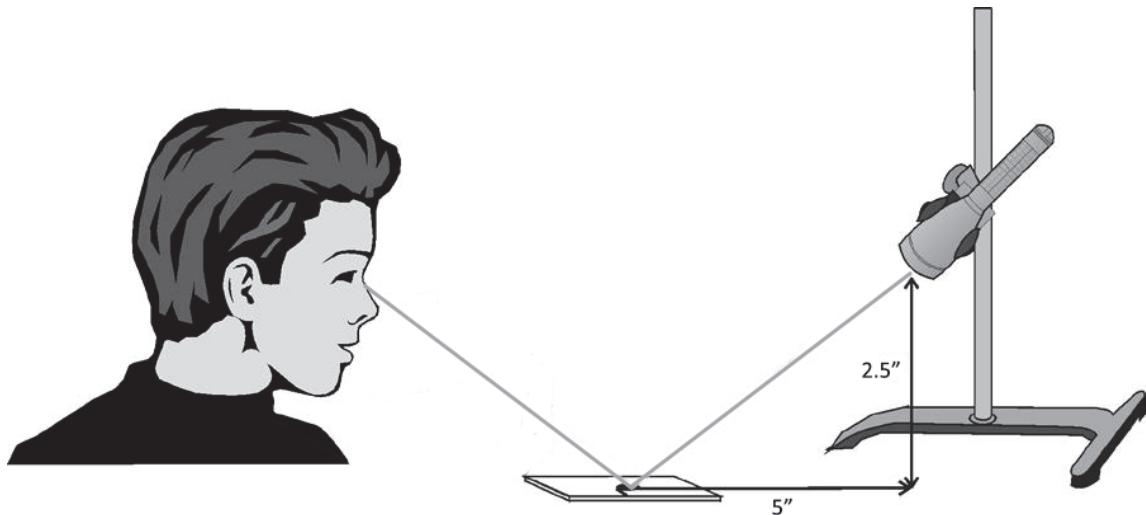

Figure 12 – Polarizer with Analyzer Illustrated
5. Adjust the LED flashlight assembly from Part 1 so that it sits about 2.5 inches high at an angle so the beam hits the optical breadboard about 5 inches in front of the light source. Place a microscope slide (LI-8) on the table at the position of the focused spot. Refer to Figure 12.